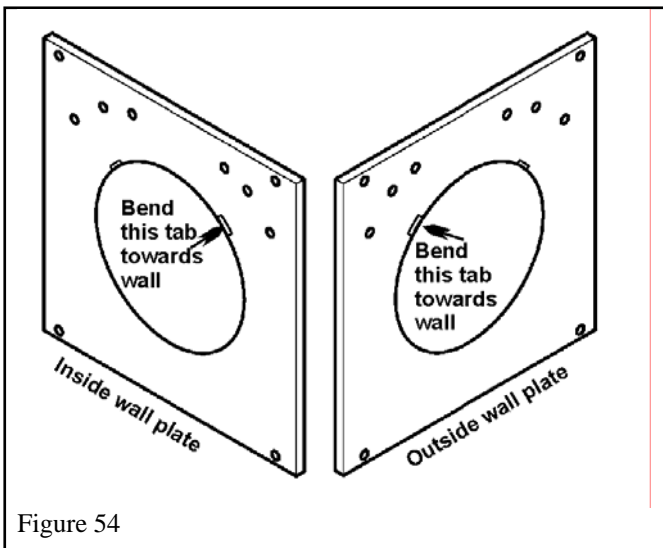

Figure 54
2. Bend the inner wall plate tab as shown in figure 54 so that the seam on the terminal tube will pass clearly through the plate with the wall shield at the top. Place the inner wall plate over the terminal unit. Slide the appliance towards the wall so that the terminal enters the wall. Slide the inner wall plate up to the wall. Mark the four holes for the wall screws. Slide the plate away.
2. Bend the outer wall plate tab as shown in figure 54. Place the outer wall plate over the terminal unit. Slide the wall plate up to the wall. Mark the four holes for the wall screws. Slide the plate away.